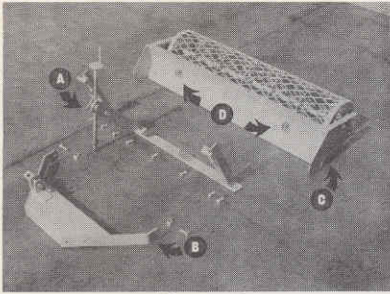

Figure 1
Bolt bracket (A) Figure 1 to top of blade (C) Figure 1 using eight $\frac{3}{8}$ " x $\frac{3}{4}$ " capscrews and lockwashers. Bolt frame (B) Figure 1 to brackets (D) Figure 1 using two $\frac{1}{2}$ " x $1\frac{1}{4}$ " bolts and self locking nuts. Caution: Do not draw these nuts up too tightly.